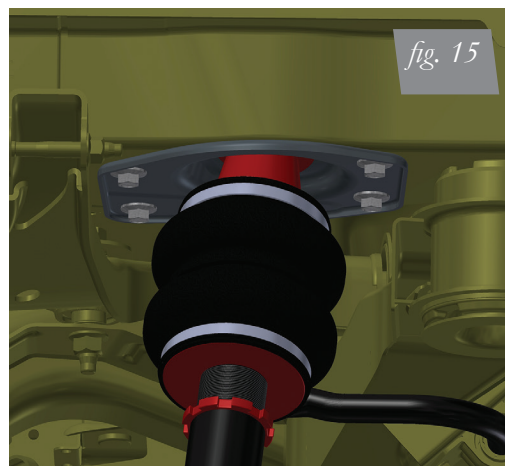

fig. 15
1. Insert the shock assembly into the shock pocket and attach the upper bracket to the chassis (figs. 15 & 16). Torque to 47Nm (35lb-ft).